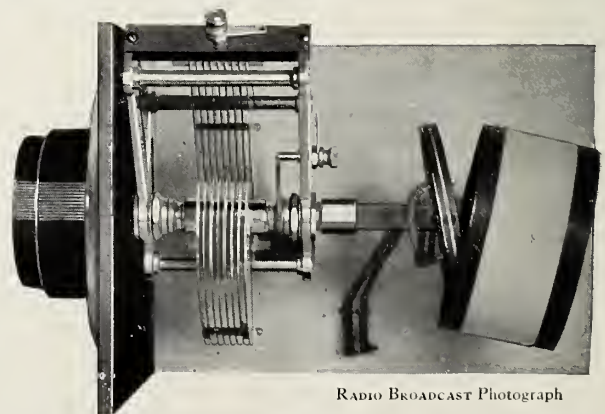
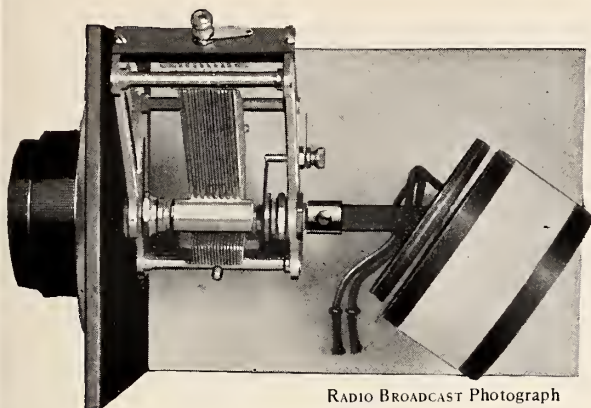

FIG. 3
FIG. 4
1. The degree of coupling at maximum—the tightest coupling to be obtained at any tuning point, generally the longest tunable wavelength. For instance, in Fig. 1, the stationary coil has been pushed over the movable coil for close coupling. In Fig. 2, the stationary inductor has been moved back for loose coupling. In any of the other illustrations showing maximum coupling (Fig. 3,) this adjustment can be similarly made by moving the larger coil *back and forth*. Once the optimum coupling is determined at maximum (a very simple process), it only remains to adjust—
Fig. 3 shows the high frequency position (condenser out), with the coils turned to a small angle. Fig. 4 is a photograph of the position at long waves for the same angle. Coupling has been gradually increased as the condenser has been turned "in"—for the coupling is, of course, greatest when the coils are parallel one to the other.